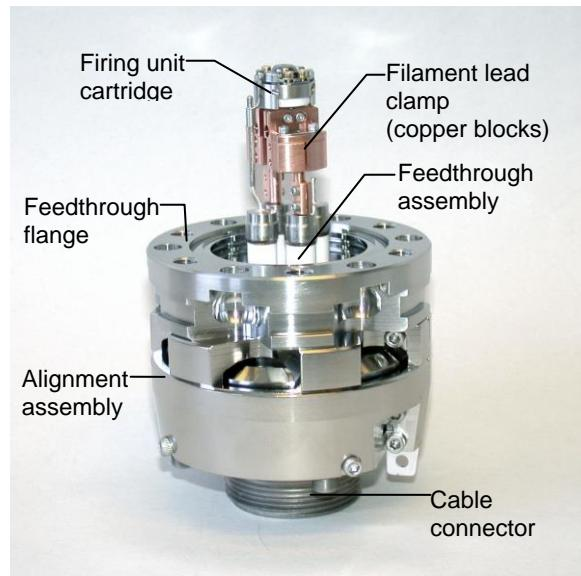

Fig. 6.3-2 EGG-3101 Firing Unit Feedthrough Assembly removed from gun
- b. Carefully, lift out the whole firing unit feedthrough assembly straight out from the Flange Multiplexer. Stand upright on cable connector end. (Fig. 6.3-2)